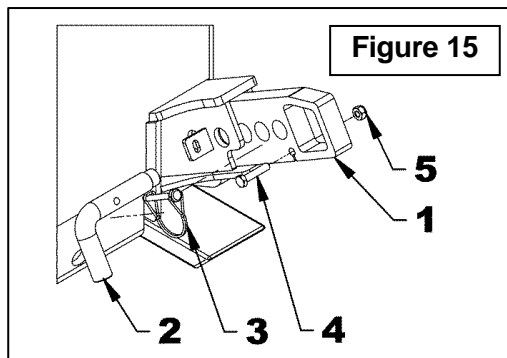

Figure 15
- Figure 15:** Remove the 5/16"NC x 1 1/2" bolt and 5/16"NC nylon insert locknut (items 4-5).
- Figure 15:** Remove the round wire lock pin and the "L" pin (items 2-3).